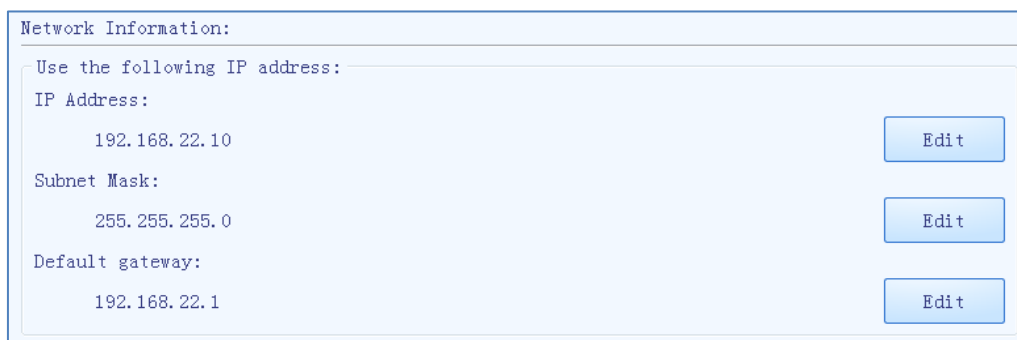

Figure E-6.2a. Configuration Sub-tab - Network Information Window
- **Network Information:** display the network information of the current Gentier instrument. User can press < **Edit** > and the instrument software will pop up the network information window, as shown in figure E-6.2a.